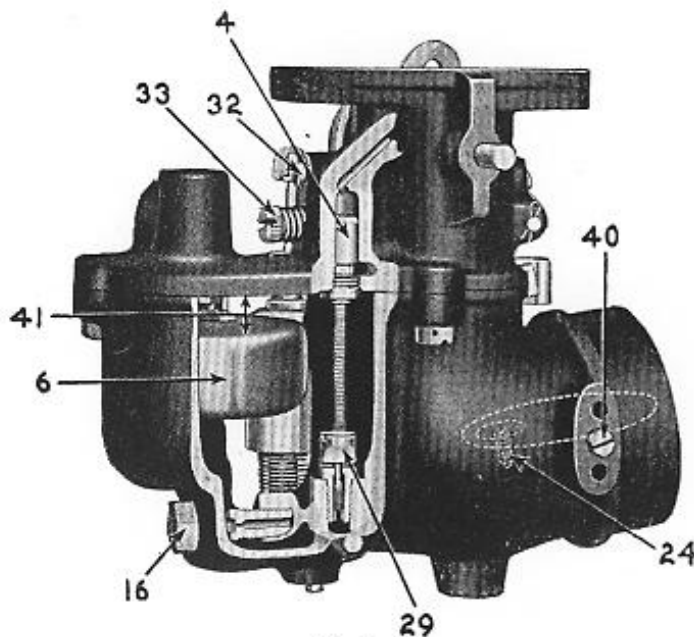

Fig. 2.
2—*The correct setting of the float (6) for low test fuel, such as is commonly used in the United States and Canada, is given on the float chamber drawing (Fig. 2). For model URO-1 and UR-2 carburetors, the distance measured from the lower surface, or*